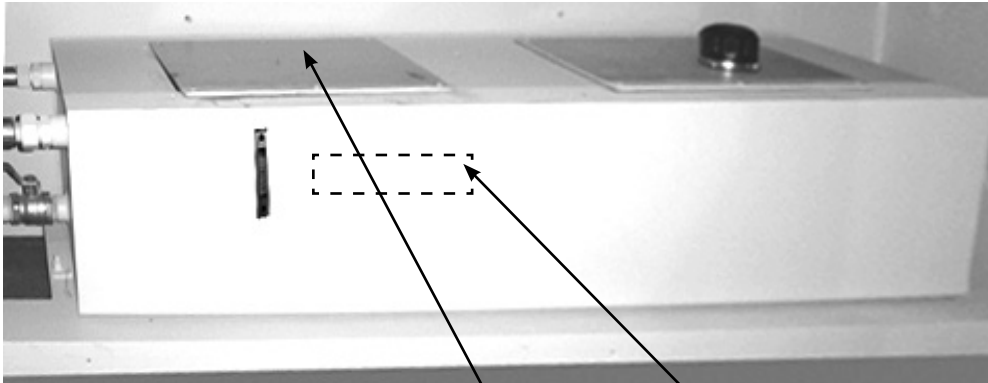

Fig. 5.6
- Remove the cover on the oil tank after loosening and removing the screws. (Fig.5.6)